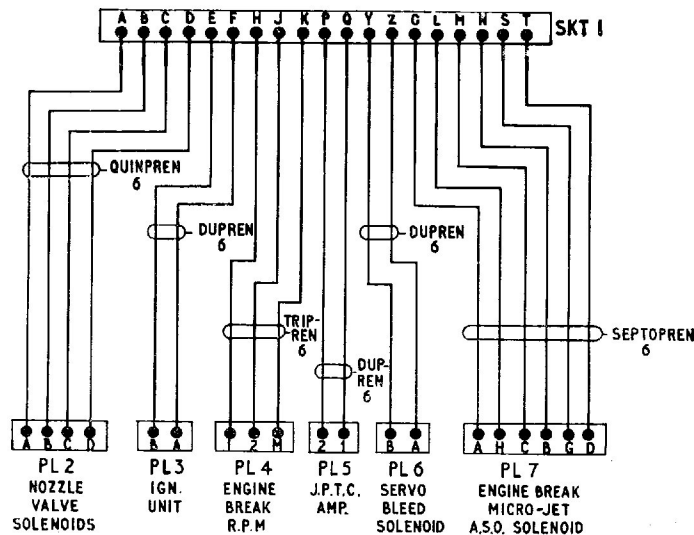
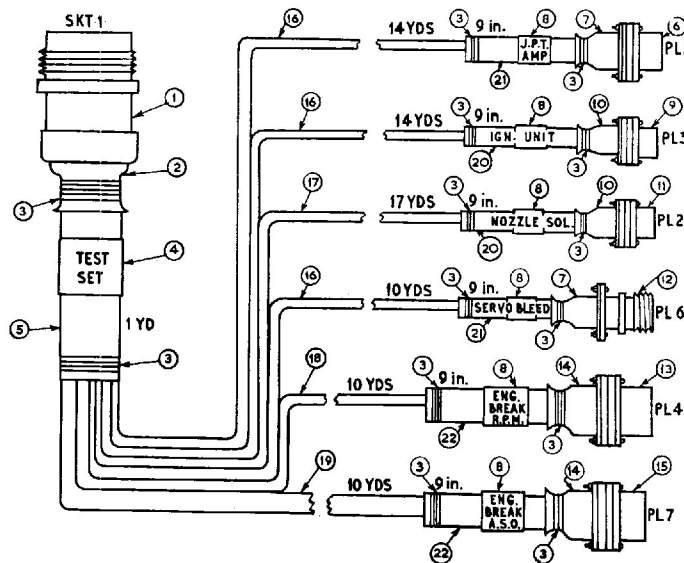

Fig. 6. Wiring diagram of test lead
Fig. 7. Details of test lead
5. The test lead is made up of presheath cables and terminates in breeze plugs at one end to facilitate connection to the aircraft components, and a breeze socket at the other end to connect with the input socket on the front panel. A wiring diagram for the lead is shown in fig. 6 and fig. 7 shows the dimensions and components of the lead. The lead is stowed in a fabric case (*fig. 8*) fitted with carrying handles and a zip fastener.
10. Fig. 7 gives details of assembly and dimensions of the test lead and the following sequence should be adhered to:—
(1) Cut the presheath cables to the dimensions shown and prepare the cable ends.
(2) Fit the synthetic tubing, cable markers and ferrules.
(3) Connect the breeze plugs and sockets as shown in the wiring diagram (fig. 6).
(4) Bind the ends, using braided cord, and shellac the cord.
Material required for test lead (fig. 7)